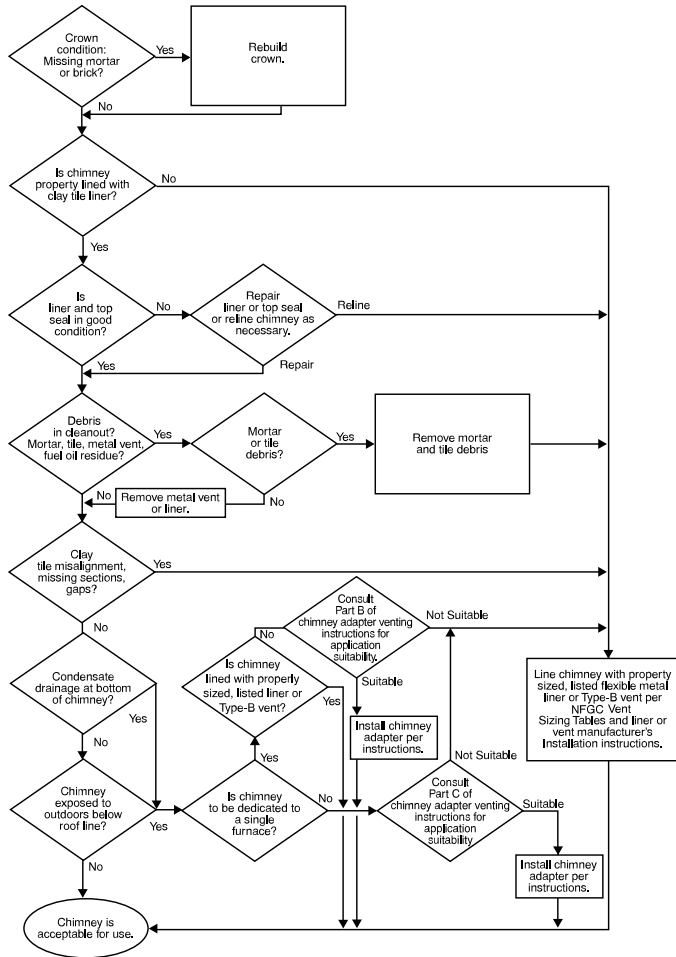

Fig. 30 – Chimney Inspection Chart
6. Do not vent this appliance into an unlined masonry chimney. (Refer to Chimney Inspection Chart, Fig. 30).
Inspections before the sale and at the time of installation will determine the acceptability of the chimney or the need for repair and/or (re)lining. Refer to the Fig. 30 to perform a chimney inspection. If the inspection of a previously used tile-lined chimney: